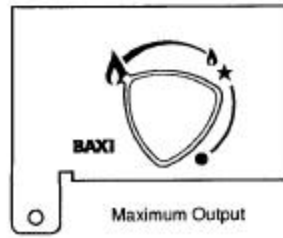

Fig. 25
4. With the burner alight, depress the control knob slightly and rotate anticlockwise to the maximum output position (★) (Fig. 25).